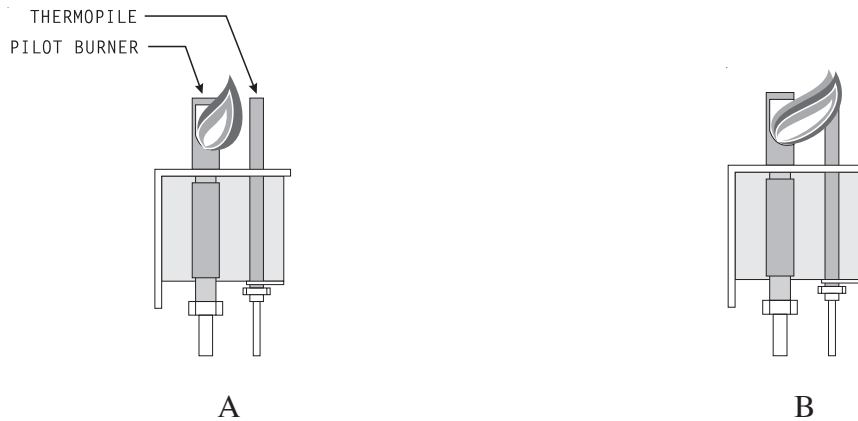

Figure 1-1 Pilot Assembly, Flame Adjustment
1.5.2.1.1 Pilot Flame Adjustment - The pilot flame should be adjusted to produce the proper millivolt output from the pilot sensing device. Millivolt output for the thermopile should be between 300 and 500 millivolts. This procedure is only necessary on the manual pilot ignition system. Figure 1-1 shows the pilot assembly with examples of the incorrect and correct pilot size. Example A illustrates a pilot flame size that is too small to produce sufficient millivolt output. Example B is the correct size for proper millivolt output.